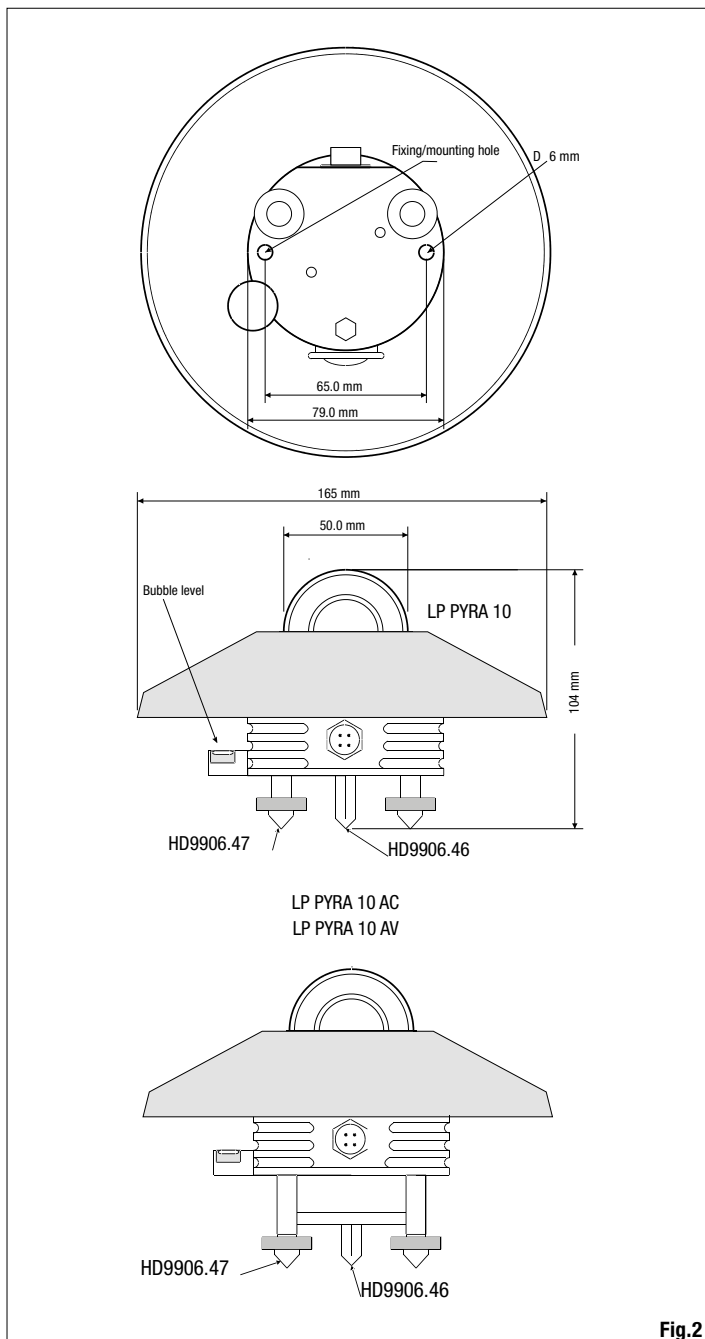

Fig.2
- For an accurate horizontal positioning, the pyranometer LP PYRA 10 is equipped with a spirit level, which adjustment is by two screws with lock nut that allows changing the pyranometer inclination. The fixing on a flat base can be performed by using two 6mm diam. holes and 65 mm wheelbase. In order to access the holes, remove the screen and re-place it back after mounting, see figure 2.